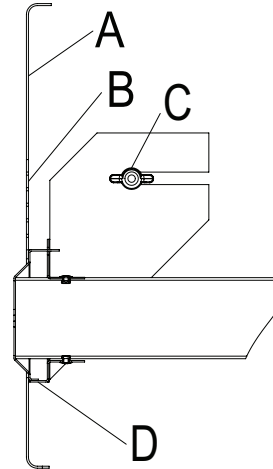

Figure 2
1. Position and secure mounting brackets to door framing on each side of opening, allowing 5/16" from end of bracket face to outside of coach see fig 2.